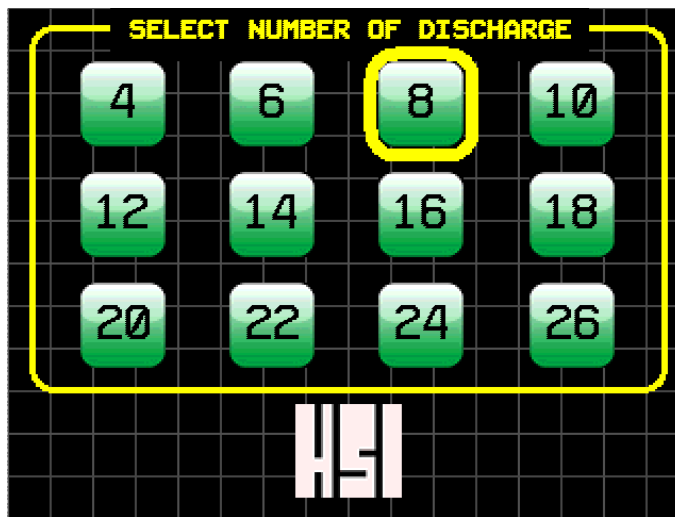

Figure 3.9
3. Select number of discharge (Figure 3.9).